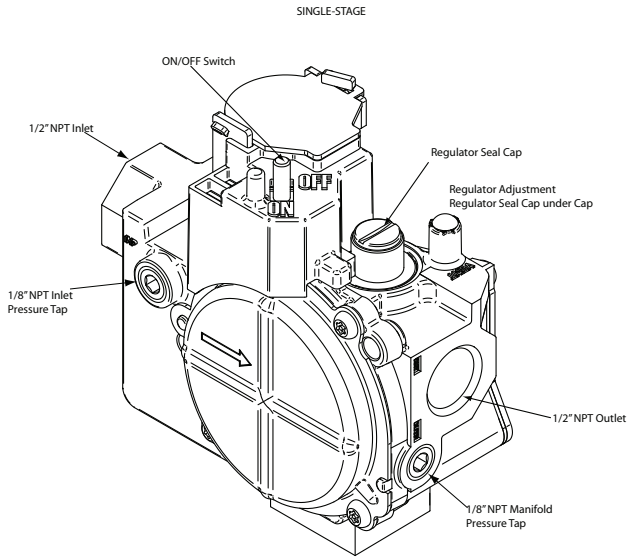

Fig. 10 - Single-stage valve
1. Refer to Fig. 10.
3. Remove caps that conceal adjustment screws for the gas valve regulators. (See Fig. 10.)
8. Turn the adjusting screw clockwise (in) 8.5 full turns. This will increase the manifold pressure closer to the propane set point. (See Fig. 10.)
1. Verify manometer is connected to inlet pressure tap on gas valve. (See Fig. 10.)